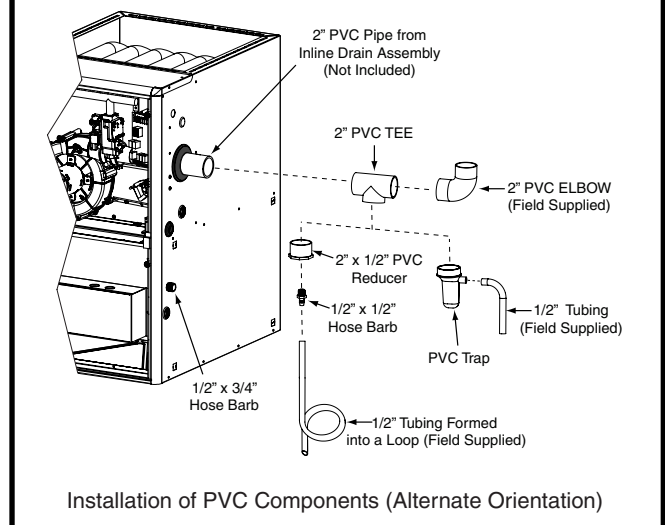

Figure 15. PVC Components
The components in Figure 14 & Figure 15 are included in the extra parts bag supplied with the purchase of the GUH95T furnace. Depending on your particular installation, some of these components are optional and may not be used. Please refer to the descriptions and accompanying figures when installing these items.
- The 2" PVC pipe shown in Figure 15 is not provided in the extra parts bag.
The 2" PVC Tee and Trap shown in Figure 15 are used when the inducer is rotated to vent out thru the left or right side of the furnace cabinet.
1. Install the PVC Tee vertically on the 2" vent pipe that is extending out the side of the cabinet. Permanently bond them together using appropriate primer and cement. Refer to the typical orientation shown in Figure 15.
1. Install the 2" PVC Tee horizontally on the 2" vent pipe that is extending out the side of the cabinet. Permanently bond them together using appropriate primer and cement. Refer to the alternate orientation shown in Figure 15.